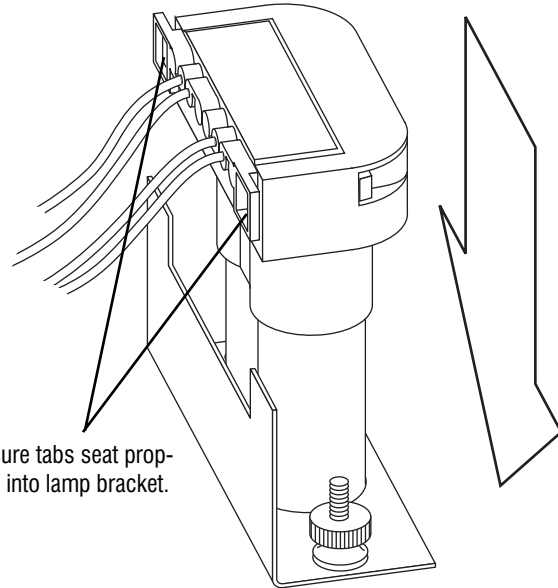

Fig. 8 Insert the lamp fully, making sure the electrical connector seats properly into the lamp bracket.
3. Insert the lamp fully, making sure the electrical connector seats properly into the lamp bracket. (Fig. 8)